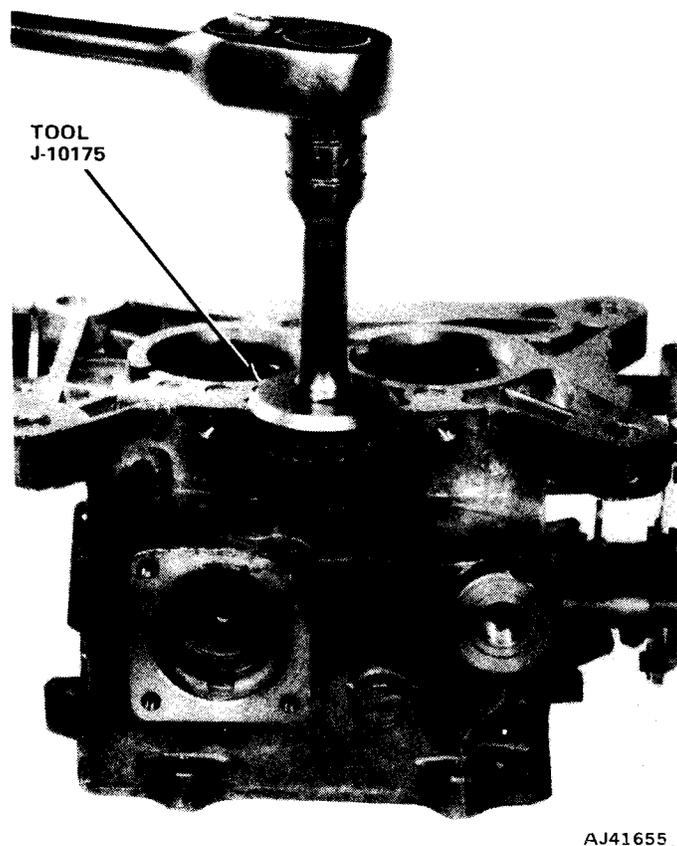

Fig. 4-49 Removing Power Valve
(19) Invert main body and remove power valve cover, gasket, and power valve with Power Valve Socket Tool J-10175 (fig. 4-49). Remove and discard power valve gasket.
(20) Remove idle mixture adjusting screws and springs. Remove limiter caps from adjusting screws.
(21) Remove nut and washer securing fast idle lever assembly to throttle shaft and remove lever assembly. Remove fast idle speed adjusting screw and spring from fast idle lever.